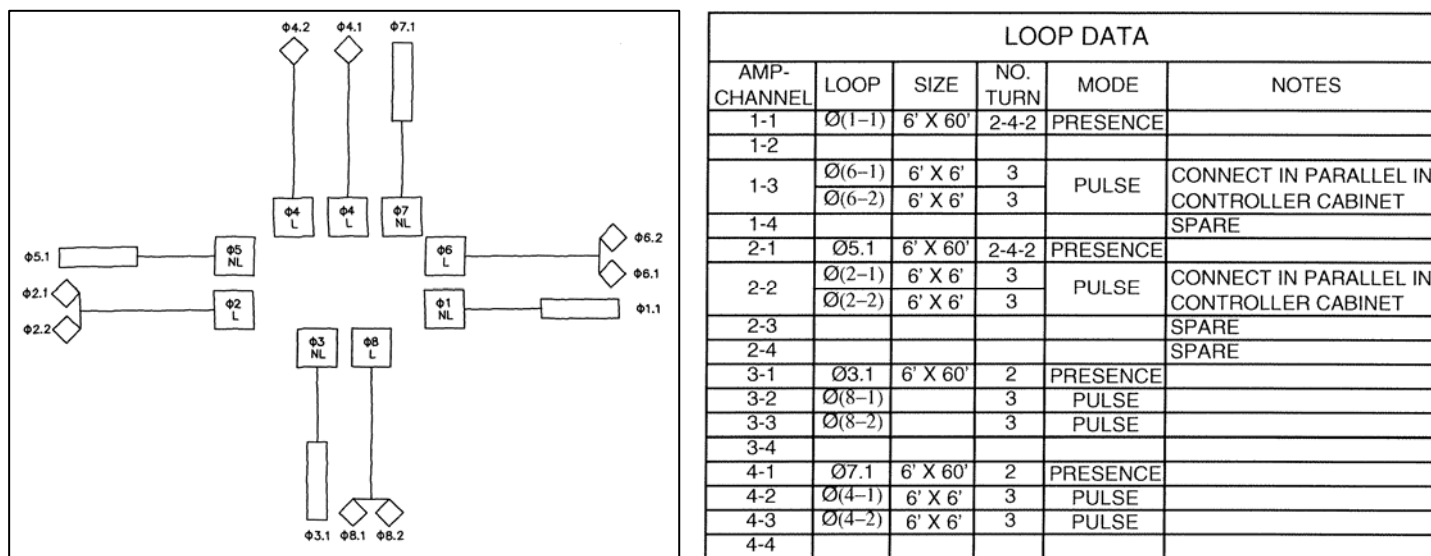

Figure 4-1: LOOP DETECTOR CHARTS
- A Loop Detector Chart as shown below and in Figure 4-1, may be shown on plan if clarity is needed.